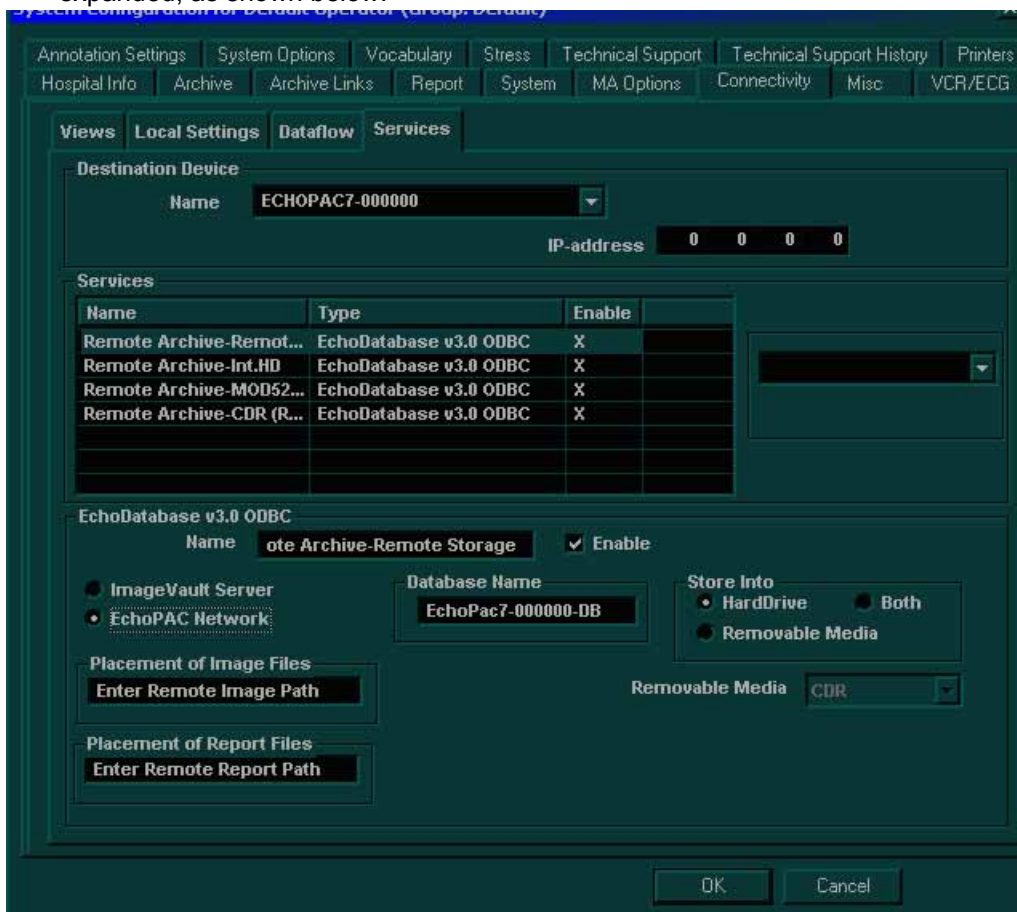

Figure 3-47 Services Tab - EchoPAC Expanded
10) If *EchoPAC Network* is required, make sure that the **EchoPAC Network** checkbox is *selected*, as shown in Figure 3-47, above, then proceed as follows: